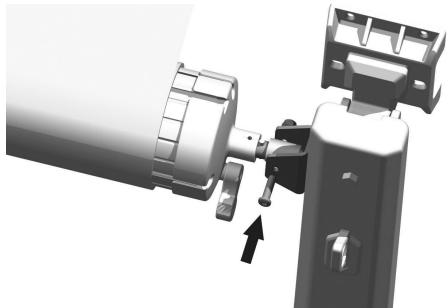

Figure C16
3.6 Wrap the fabric in the same direction onto the roll tube, leaving one circle untouched, and thread the fabric into the vehicle's fabric rail (Figure C15), fix the shaft hole at the end of the roller to the top bracket of the support rod (Figure C16).